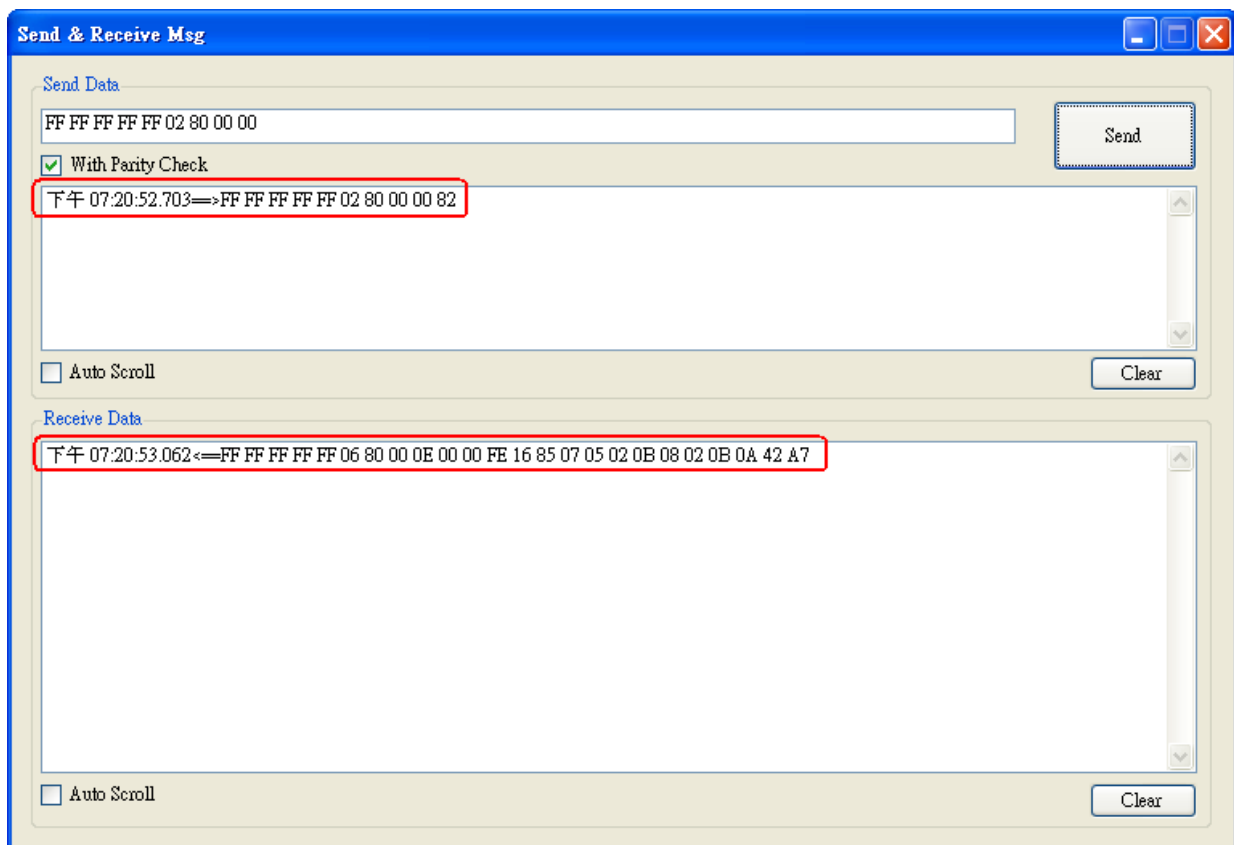

Figure 4-12: Receive HART Command
- (3) When HART device responses the HART information, it will show in the “Receive Data” field like Figure 4-12. If error happened in HART communication, it will not show any message in the “Receive Data” field. Please check the HART command in the “Send Data” field if it is correct.